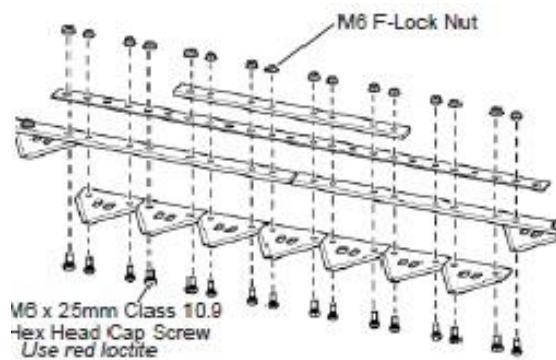

Figure 119
1. The connector bar is used to repair a broken knife back. The break should be cut out and ground smooth. A cutting section should bridge the break and the connector bar should be installed on the top of the knife back. Figure 119 Note: This is for the standard cutting system.